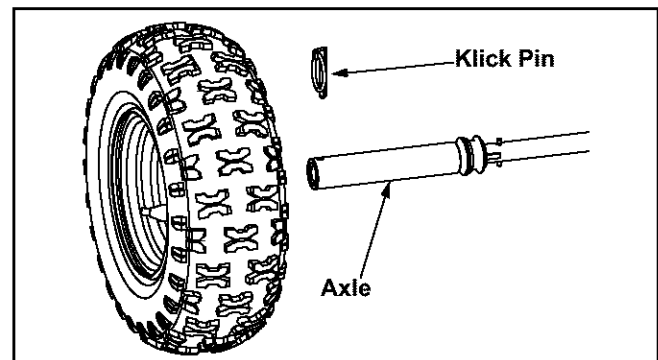

Figure 19
- Oil or spray lubricant into bearings at wheels at least once a season. Pull klick pin, remove wheels, clean and coat axles with a multipurpose automotive grease. See Figure 19.